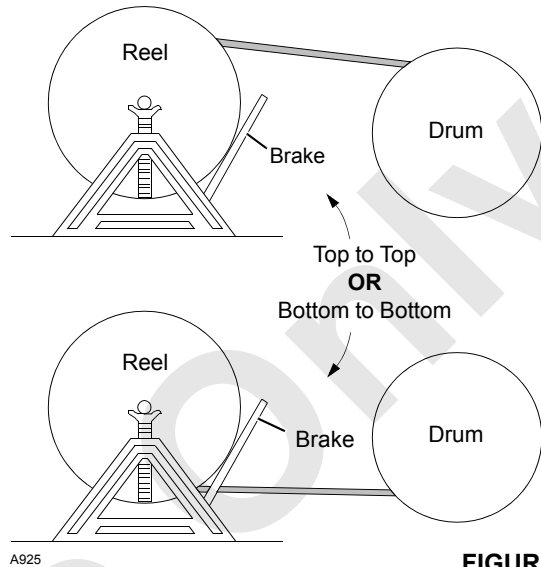

FIGURE 4-48
2. Provide a brake at shipping reel (see Figure 4-48) so wire rope can be wound tightly onto drum.
3. Avoid a reverse bend when winding wire rope onto drum: wind from top of reel to top of drum or from bottom of reel to bottom of drum as shown in Figure 4-48.